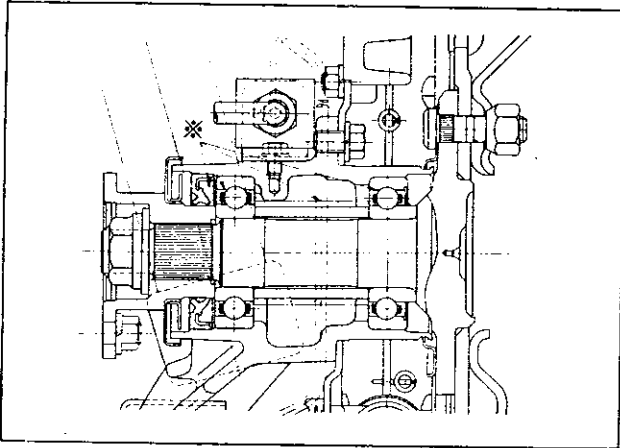

Fig. RA-25 Lubrication chart of rear axle
1. The outer bearing is provided with a seal in one side. Apply the outer bearing to the rear axle shaft so that the side to which the seal is attached is faced to the wheel. (See Figure RA-25)
Fill the portion indicated by asterisk (*) in Figure RA-25